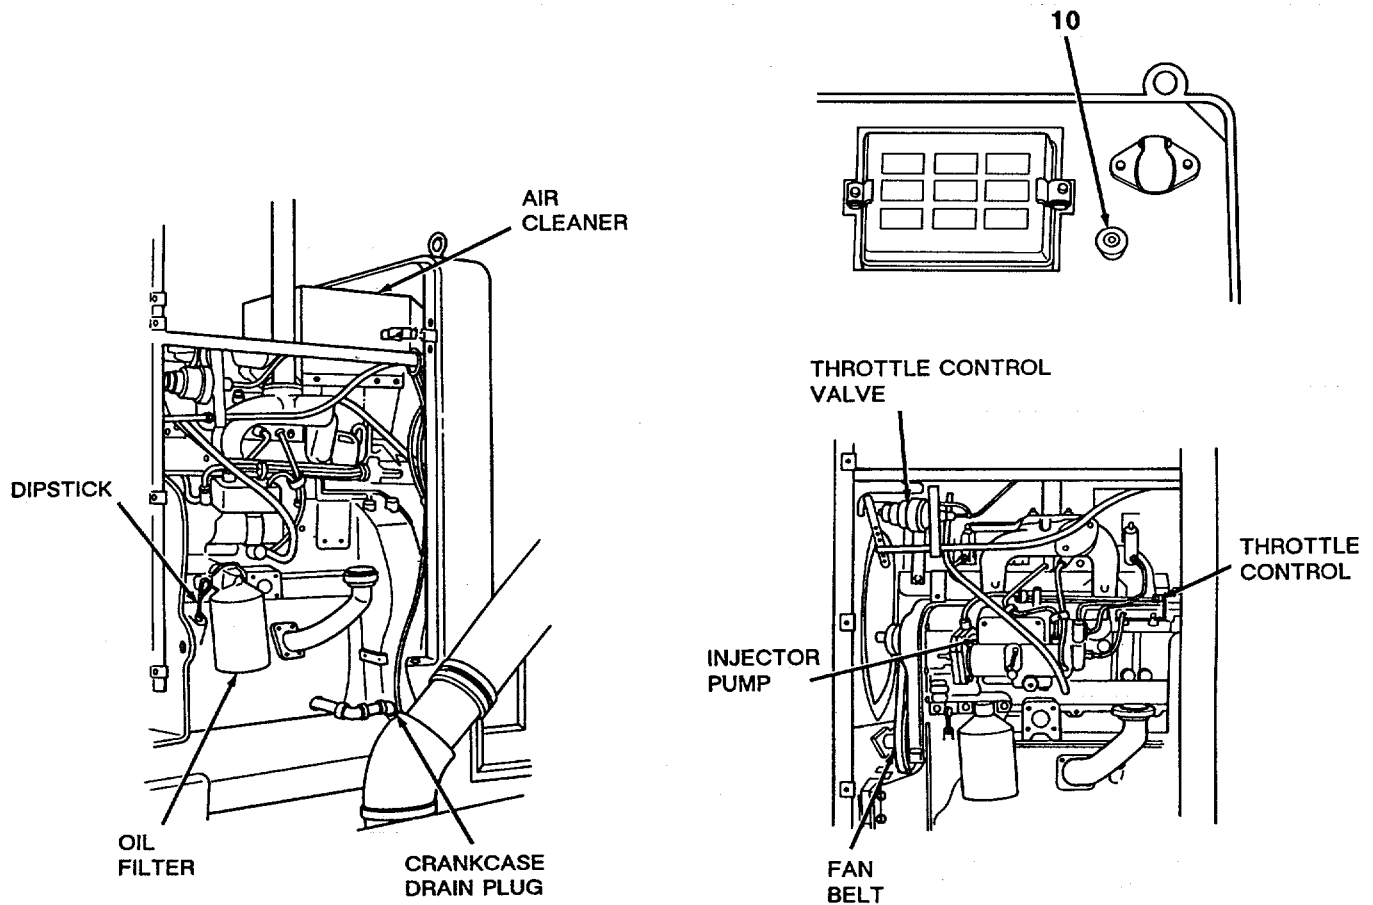

Figure 5-1. Water Distributor Engine.
- d. Remove top cowling and side cowling panel and check the injector pump, fuel filters, alternator and belt, oil filter, and throttle control valve for damage (see Figure 5-1).